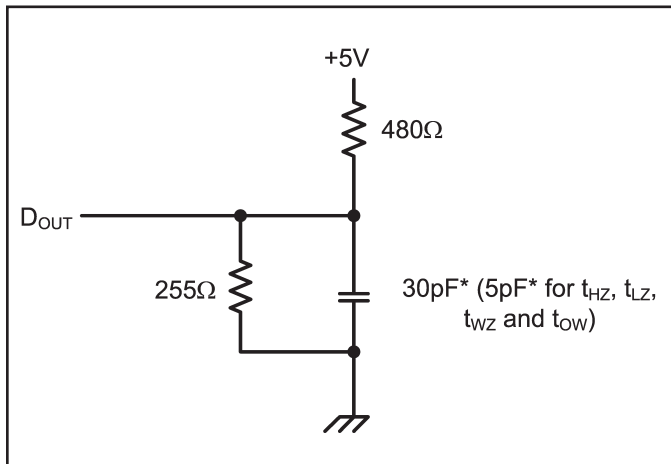

Figure 1. Output Load
7. Transition is measured ± 200 mV from steady state voltage prior to change with specified loading in Figure 1. This parameter is sampled and not 100% tested.
Output Load	See Figures 1 and 2